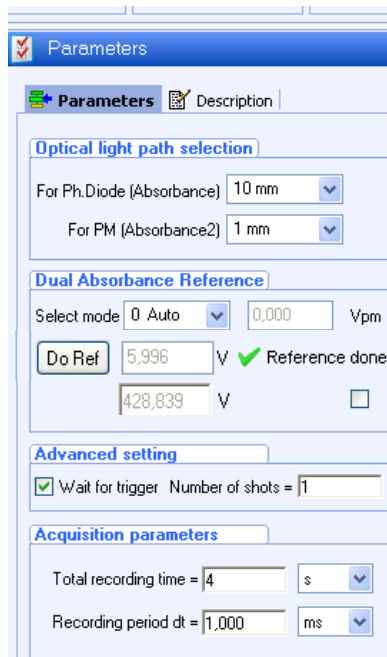

Figure 7: acquisition parameters
- At this step water is in the cuvette, click on "DO REF" to do the blank: (Cf figure 7). Two voltages are displayed one around 5V and a HV over 100V.